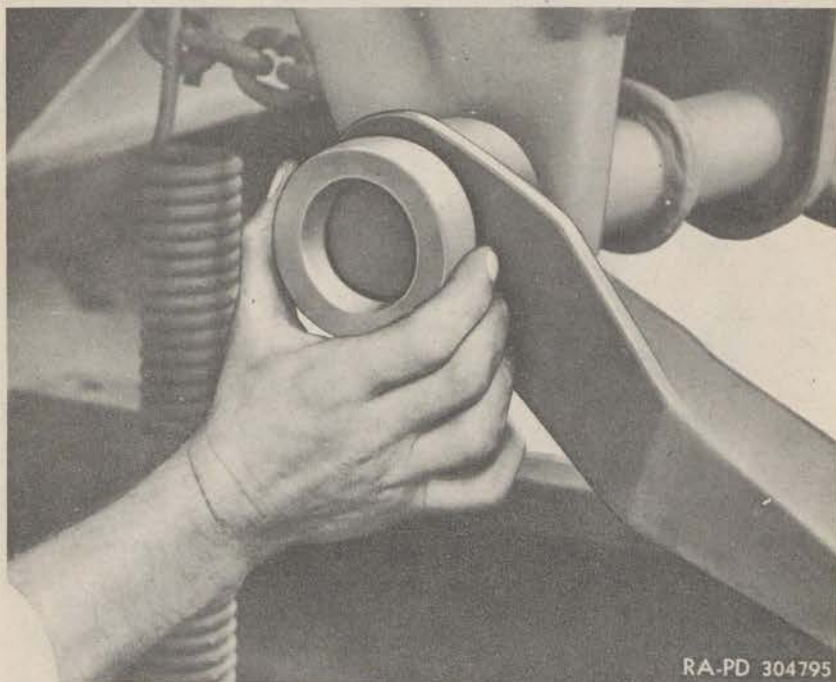

Figure 197—Installing Lift Arm Collar
(1) **PLACE HOIST ASSEMBLY IN CHASSIS.** Lift the hoist assembly into position on top of the frame and lay it flat with the trunnion pointing towards the rear of the truck. Install the ends of the connecting links over the trunnion journals and install the lift arm collar (fig. 197). Then work it into position so that the trunnion journals drop into their